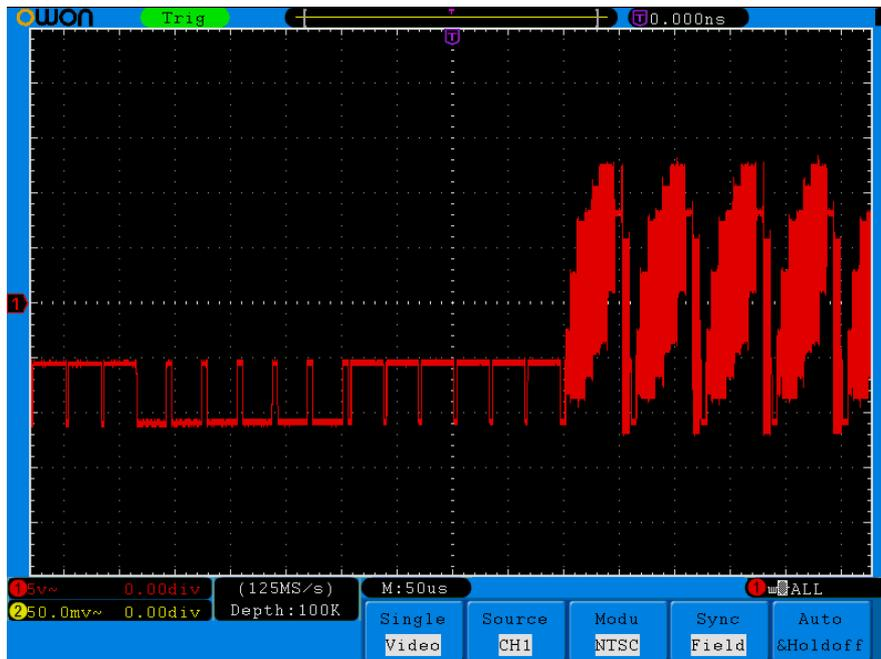

Fig.6-7 Waveform Captured from Video Field Trigger
- (1) Press the **Trigger Menu** button to display the trigger menu.
- (2) Press the **H1** button to display the trigger type menu.
- (3) Press the **F1** button to choose **Single** for Type.
- (4) Turn the **M** knob to choose **Video** as the mode.
- (5) Press the **H2** button to display the Source menu.
- (6) Press the **F1** button to choose **CH1** for Source.
- (7) Press the **H3** button to display the Modu menu.
- (8) Press the **F1** button to choose **NTSC** for the modulation.
- (9) Press the **H4** button to display the sync menu.
- (10) Press the **F2** button to choose **Field** for Sync.
- (11) Turn the **VOLTS/DIV**, **VERTICAL POSITION** and **SEC/DIV** knobs to obtain a proper waveform display (see Fig.6-7).